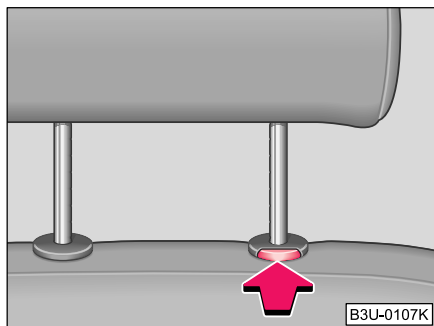

Fig. 45 Removing a head restraint
- Press the locking button in direction of arrow ⇒ **fig. 45** and pull the head restraint out.